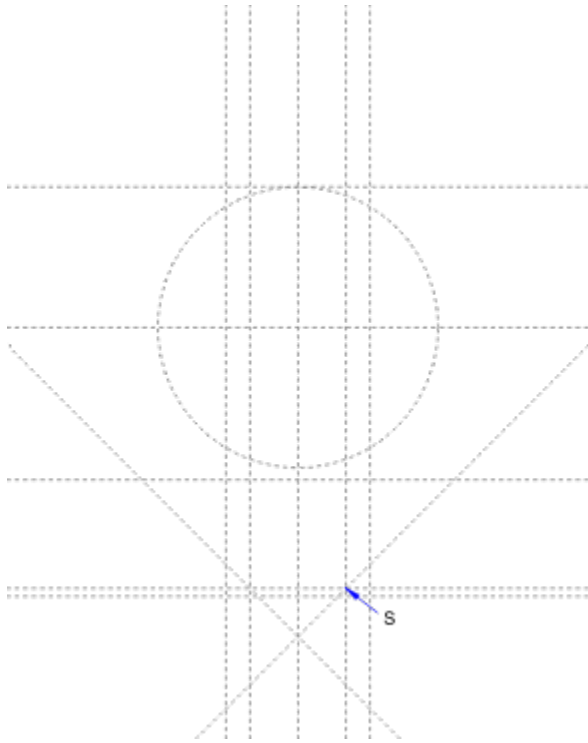

Figure 3
Use Geometry>Geometry Line>Angle to Line to draw a line at 45° on the right side and -45° on the left side to indicate the position of the chamfer. Use the intersection of the 12 mm vertical geometry line with the new horizontal geometry line (S) as the snapping point. Repeat the process with the angle of 45° on the opposite side (Figure 3).